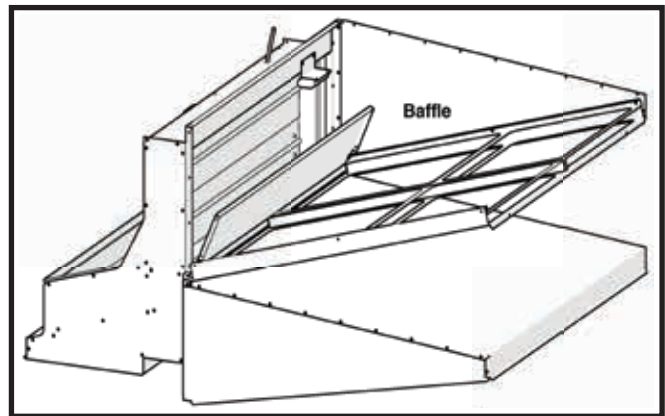

Figure 7. Assembly shown with side removed to show baffle location
- Install filter slide assembly and secure to intake hood sides. See Figure 7.
- Apply a bead of adhesive sealant to mounting surface of baffle prior to attaching to intake sides. Attach with supplied screws. See Figure 7.